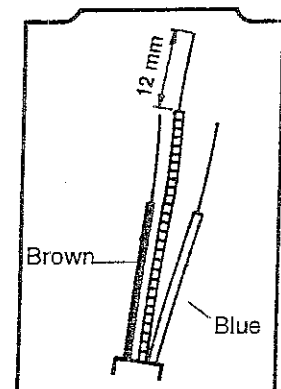

Fig. 19
- 7.1.2 The earth conductor must be cut longer than the live and neutral (fig. 19).